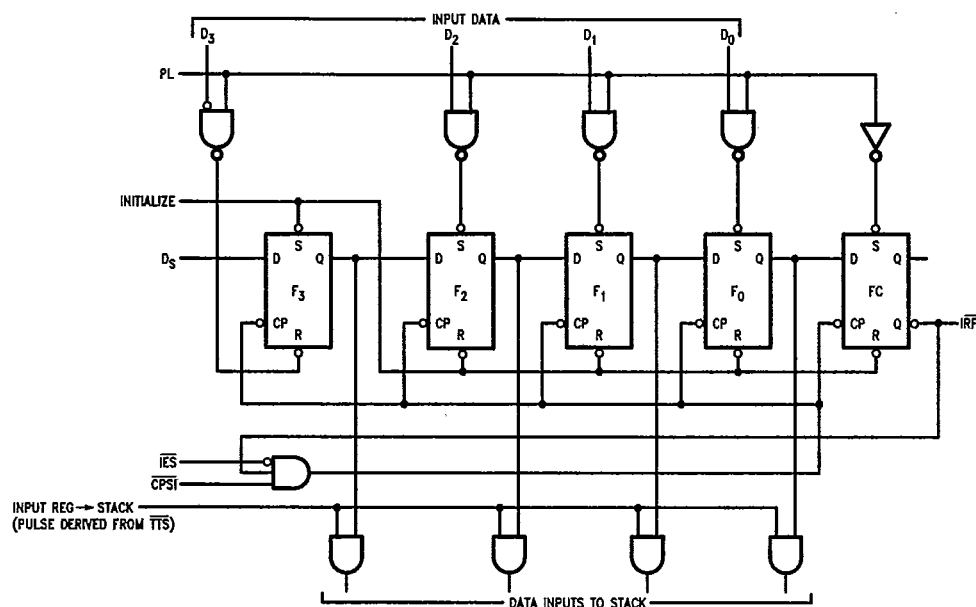

FIGURE 1. Conceptual Input Section
This 5-bit register (see Figure 1) is initialized by setting flip-flop F₃ and resetting the other flip-flops. The Q-output of the last flip-flop (FC) is brought out as the Input Register Full (IRF) signal. After initialization, this output is HIGH.